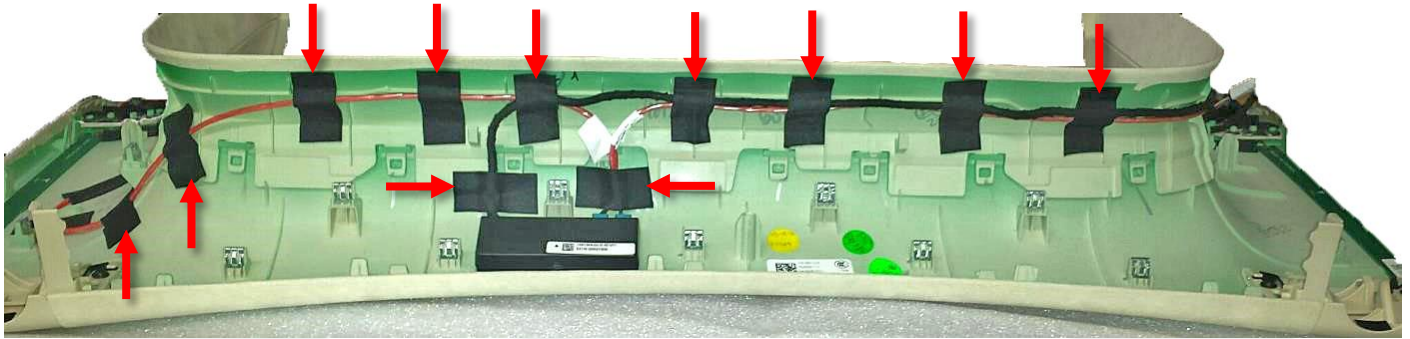

Figure 10 (Side view, LH rear upper door trim panel)
- c. Clean the surface where the tape will be applied (Figures 10–12) with an alcohol wipe. Allow the surface to dry before continuing.
- e. Route the wiring harnesses as shown in Figures 10–12.